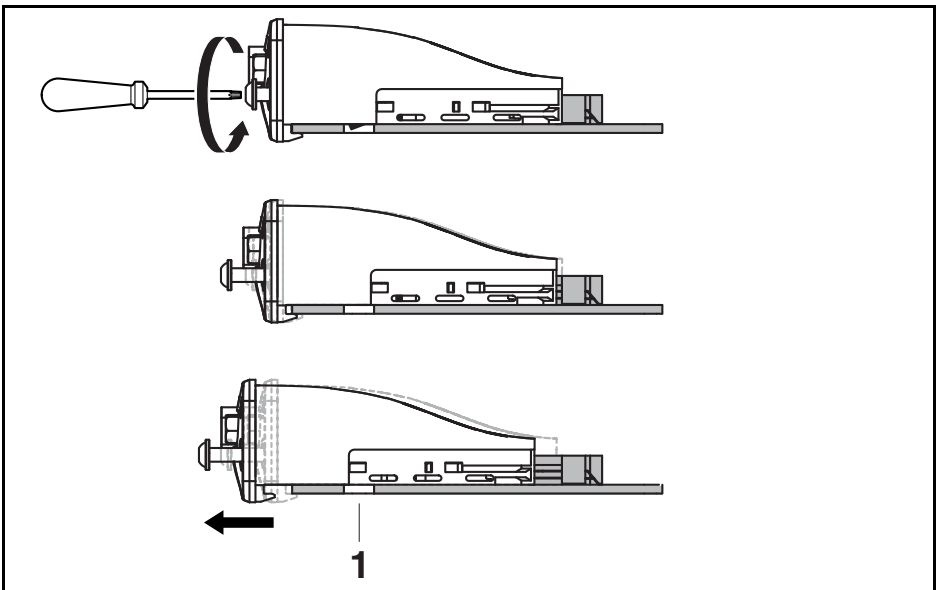

Fig. 4: Releasing the lock
2. Loosen the front torx screws. The IMenip2 interface module may only be removed once the lock has been completely released (see Fig. 4).